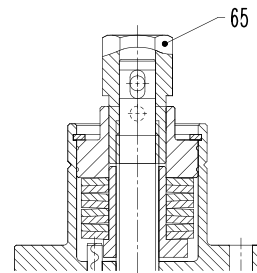

Figure 7-4
6. Turn by hand the hexagon head (65) clockwise to its mechanical stop; see «Figure 7-4».